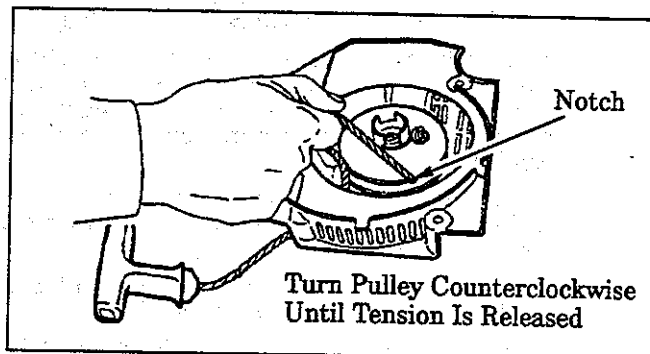

Figure 38
4. If the starter rope is not broken, release the spring tension by pulling about 10 inches of rope from the pulley and catch the rope in the notch as shown in Figure 38.
16. Pull out (*inside* the pulley housing) 10 inches of rope and catch the rope in the notch in the pulley. Figure 38.